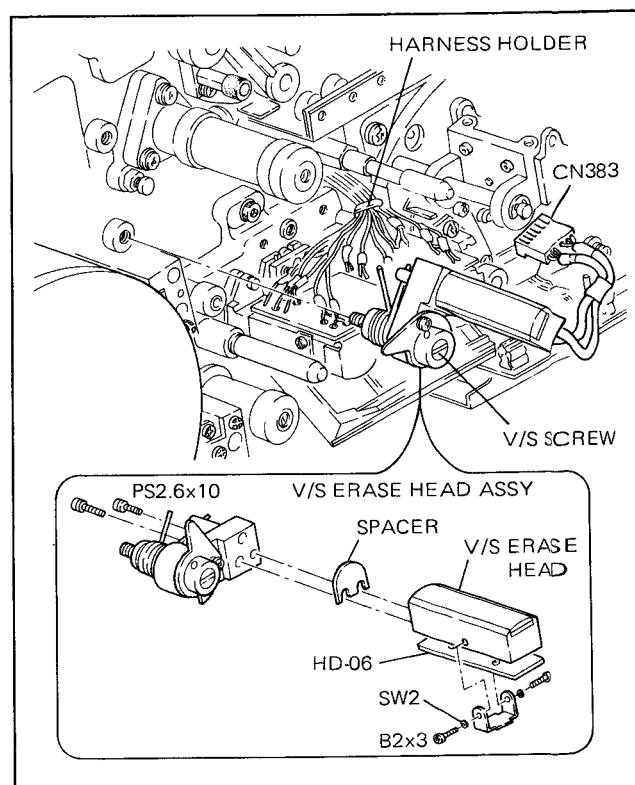

Fig. 6-1. V/S Erase Head Replacement
3. Remove the harness from the V/S erase head, then remove the head. (See Fig. 6-1.)